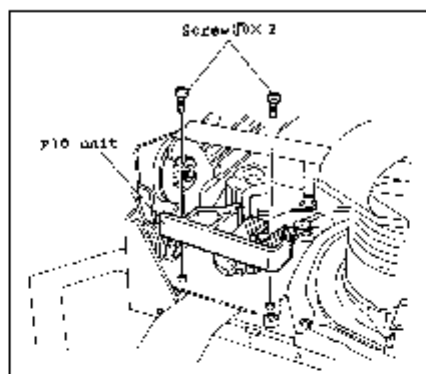

Fig. III-42
33. P10 Unit (Fig. III-42)
- (1) Apply the Grease EL-4 on the  positions in the Fig. III-42.
- (2) Reverse the disassembling procedures.